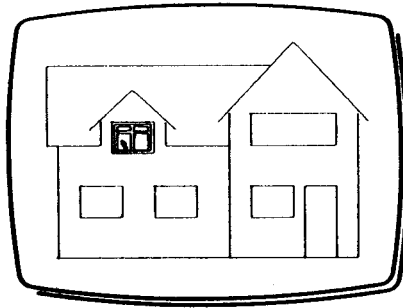

Fig 7
- 23 Select PAGE from the Menu. The complete drawing will appear at base page scale, as in Fig 7. You can now zoom on another part of the house, adding details as you wish.